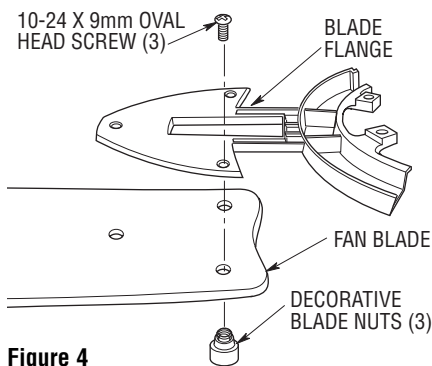

Figure 4
1. Mount the fan blades to the blade flanges using three 10-24 x 9mm oval head screws and three decorative blade nuts (supplied) (Figure 4).